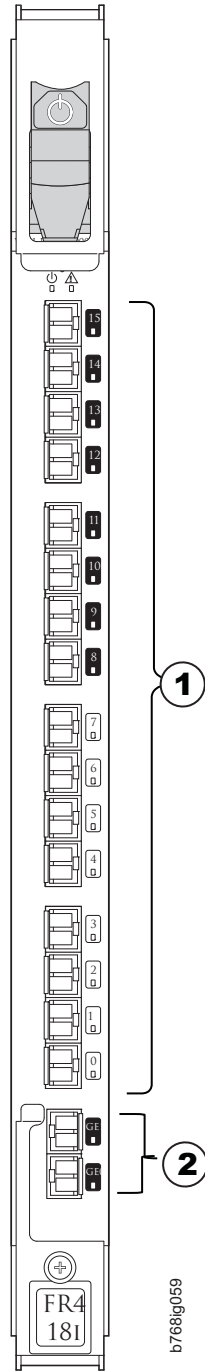

Figure 55. FR4-18i routing blade
- Figure 55 on page 153 shows an FR4-18i routing blade